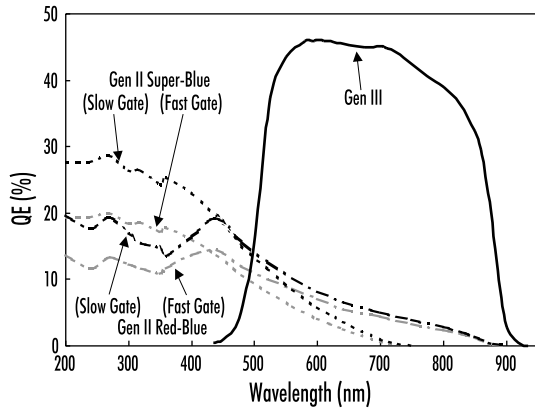
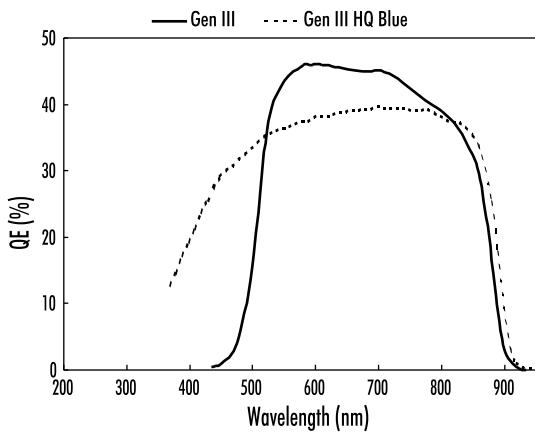

Figure 3. Comparison of Roper Scientific Gen II red-blue (balanced-response) and super-blue photocathodes with Gen III GaAs photocathode.
Figure 4. Comparison of QE for Gen III and new Gen III HQ Blue photocathodes.
Early intensifiers used multi-alkali coatings consisting of compounds with fair photoconversion performance in the visible (VIS) and ultraviolet (UV) regions, but relatively limited response at NIR wavelengths. These coatings were generally analogs of sodium, potassium, antimony, cesium, or silver. Gallium arsenide (GaAs) is a more recent semi-conductor, low-bandgap coating with high QE in the VIS and NIR regions. In contrast to military needs for intensifiers with higher NIR sensitivity, scientific ICCD usage usually focuses on the blue/green region of the spectrum. This has led to the development of photocathode coatings for ICCD use with QE improvements in the blue/green region. For example, Roper Scientific®, the leading manufacturer of high-performance ICCD camera systems, offers proprietary Gen II red-blue “balanced-response” and super-blue photocathodes (Figure 3). Gen III HQ Blue photocathodes have also found some utility in military aircraft applications (Figure 4).
Gen III image intensifiers are Gen II technology with GaAs added as the photocathode coating. GaAs is extremely photosensitive in the NIR region above 800 nm, but is relatively poor in the blue/green region. Gen III intensifiers utilize high-resolution MCP plates (6- $\mu$ m-diameter channels) and ion-barrier films. Some versions of Gen III are blue enhanced, with sensitivity in the blue/green region moderately improved for use in military fighter aircraft to visualize cockpit instrument displays, which are generally blue or green (Figure 4).